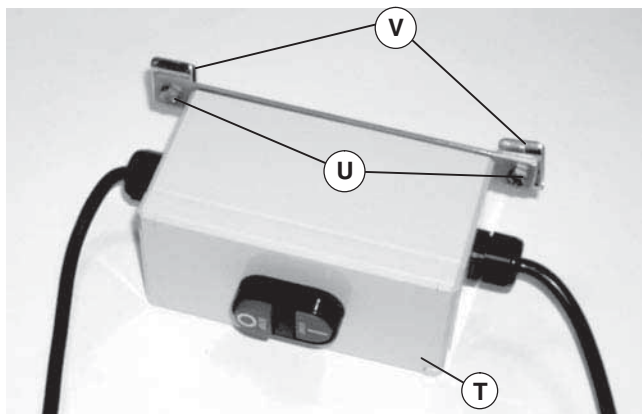

Figure 20
- Attach two accessory mounting clips (Figure 20, item V) to motor starter (T) with two M6 x 20mm hex head cap screws (U). Do not tighten screws.